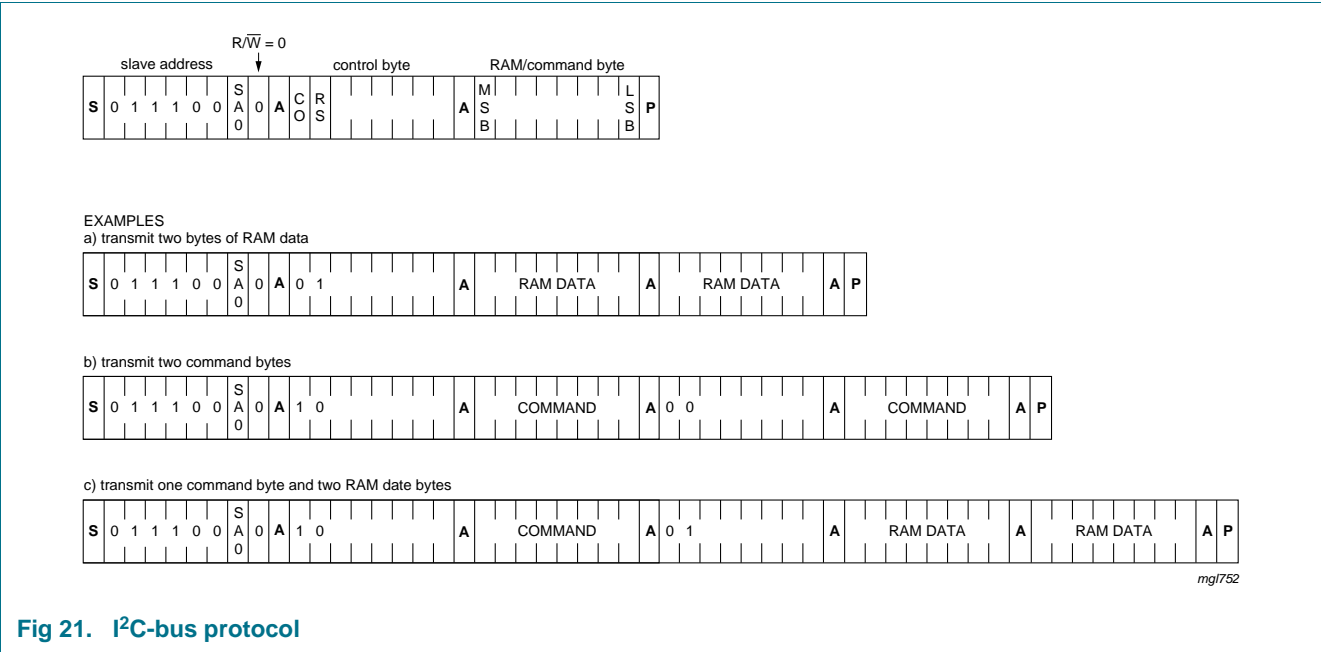

Fig 21. I2C-bus protocol
The I2C-bus protocol is shown in Figure 21. The sequence is initiated with a START condition (S) from the I2C-bus master which is followed by one of two possible PCF8532 slave addresses available. All PCF8532 with the corresponding SA0 level acknowledge in parallel to the slave address, but all PCF8532 with the alternative SA0 level ignore the whole I2C-bus transfer.